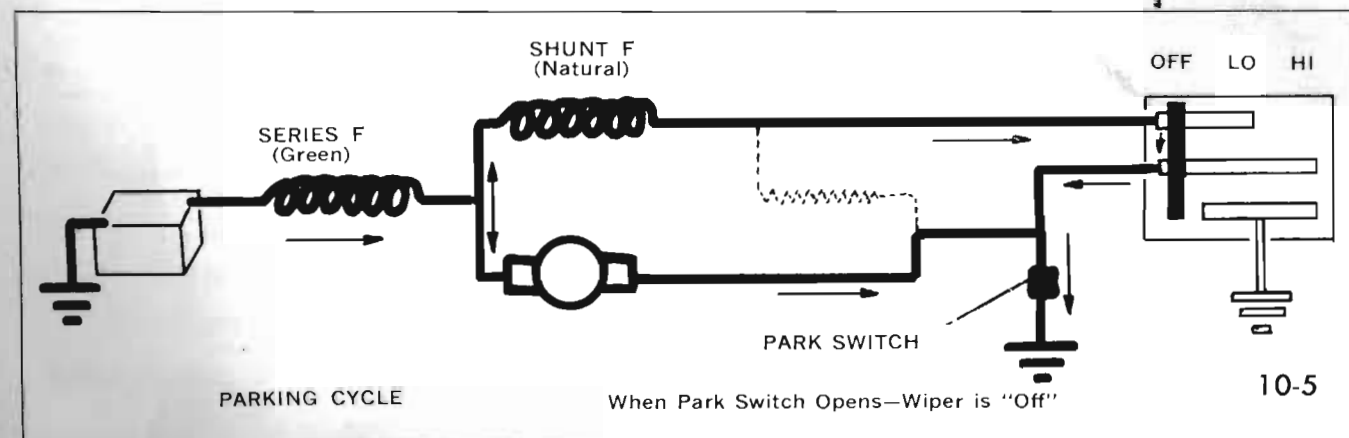

Figure 10-5—Parking Circuit
**NOTE:** The shunt field circuit actually flows via the dash switch back to the wiper parking switch direct to ground which means that wiper is actually operating in "LO" speed during the parking cycle. See Figure 10-5.